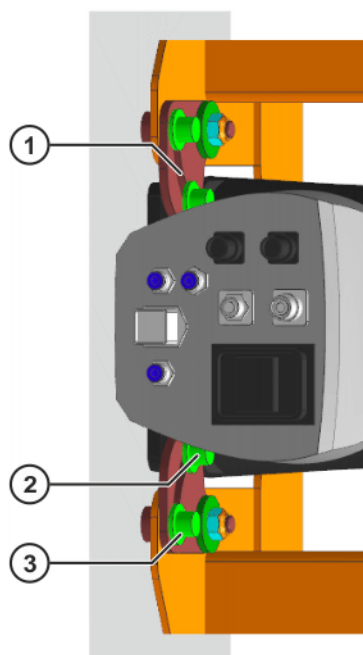

Fig. 11-5: Positioning and fastening the swivel holders
14. Position swivel holders on base frame (>>> Fig. 11-5).